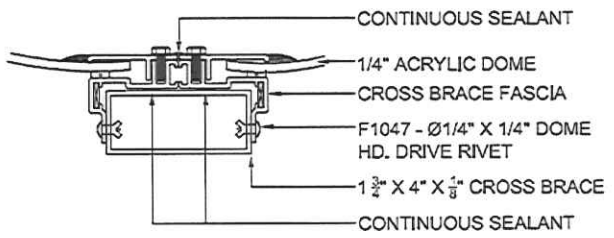

FIGURE 6
- 6A) FIGURE 6 SHOWS ATTACHMENT FOR MULTIPLE DOME ROOFS. ON MULTI-DOME ROOFS RUN TWO CONTINUOUS 1/2" BEADS OF SILICONE ALONG CROSS BRACE AS SHOWN. AFTER ROOFS ARE INSTALLED RUN A CONTINUOUS BEAD OF SILICONE ALONG ABUTMENT OF DOME ROOF MODULES.